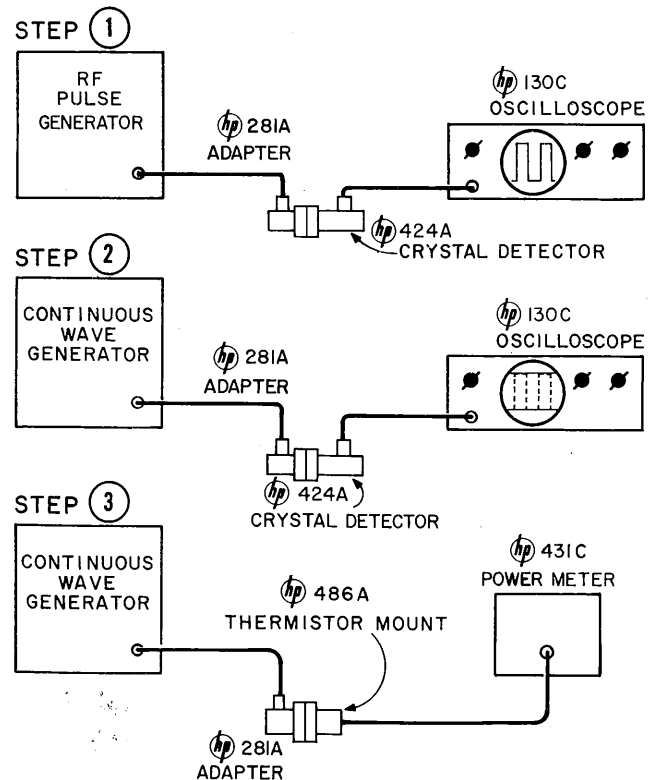

Figure 2. Peak Power Measurement
20. An arrangement for peak power measurement is shown in Figure 2. The procedure involves calibration of an oscilloscope using the envelope of the pulse under measurement. The oscilloscope calibration is then used to set the output amplitude of a CW source. Output power of the CW source is thus equal to the peak power and is measured by a power meter. The measurement procedure is as follows:
- a. Connect equipment as shown in Figure 2, step 1.